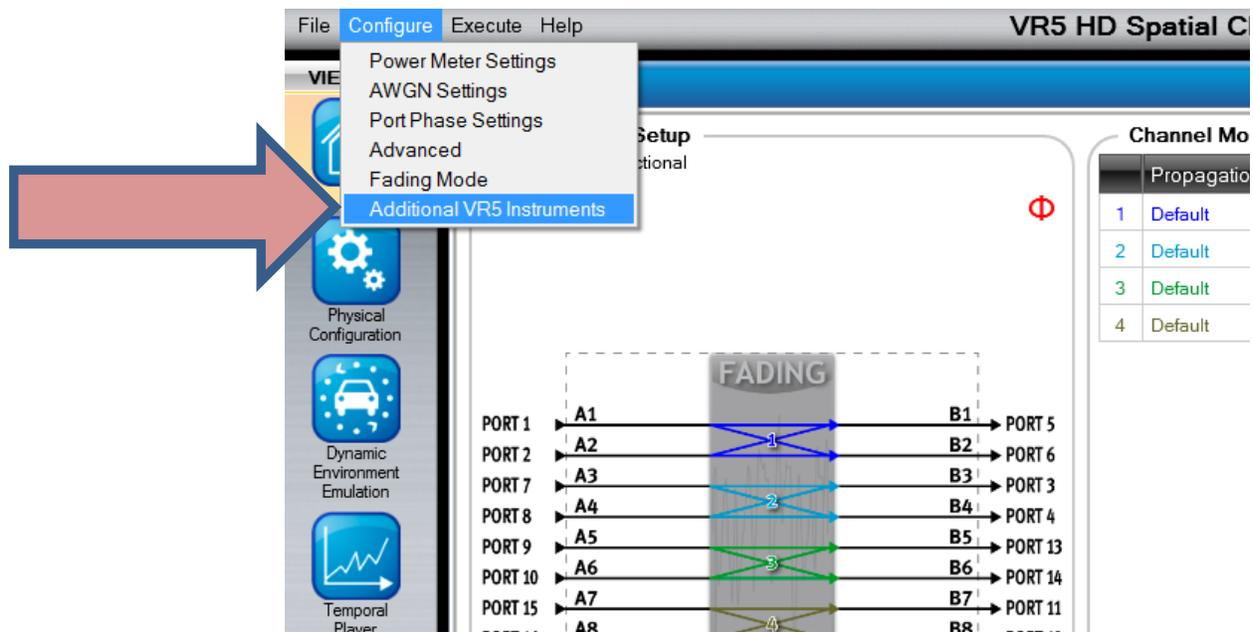

Figure 3-10: Configuring Additional VR5 Instruments
4. Select **Configure>Additional VR5 Instruments**, as shown in Figure 3-10 to connect the secondary VR5 unit.